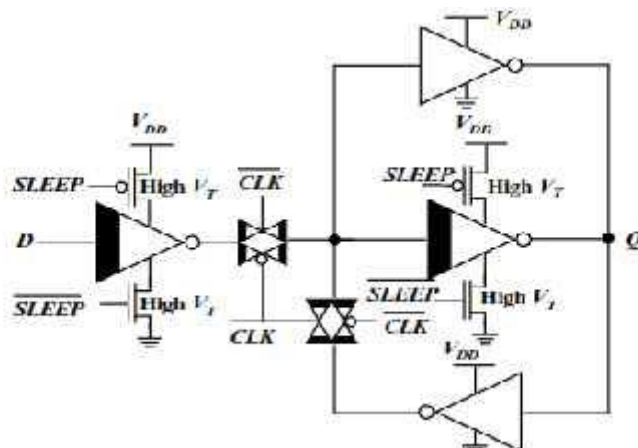

Figure 3.13: One solution for the leakage problem in low-voltage operation using MTCMOS.
- Multiple Threshold devices as shown in Figure 3.13.